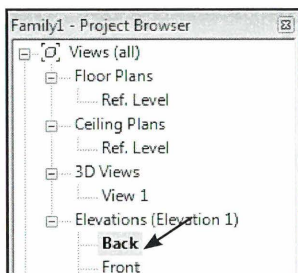

Fig. 04.101. Project Browser.
- Stå i *Back* i *Project Browseren* (Fig. 04.101).
- Klik *Create - Swept Blend* (Fig. 04.101).